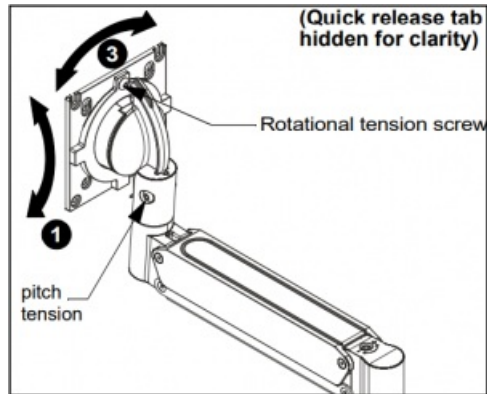

Figure 12
1. Adjust pitch to desired tilt position. (See Figure 12)
2. Adjust pitch tension screw to change the adjustment tension. (See Figure 12)
3. The monitor may be adjusted 90 degrees in either direction in order to provide a portrait view of the monitor. (See Figure 12)